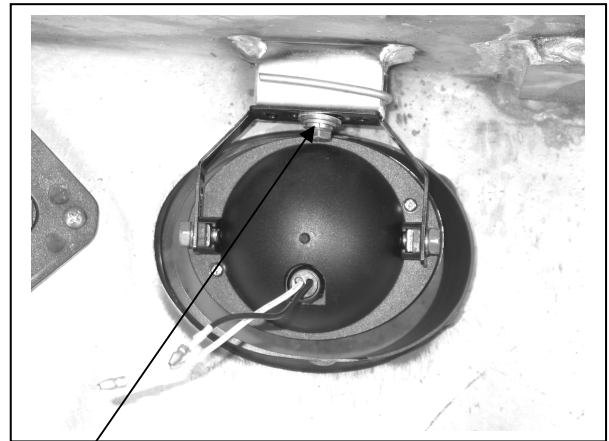

Figure 6
9. Fit ECB fog lamps (supplied) into protection bar. **See figure 6.** Use M6 x 20 bolts with 6mm nut on 100mm wire (supplied) **TIGHTEN FIRM ONLY. Do not** fit ECB fog light trims (supplied) to protection bar at this point.